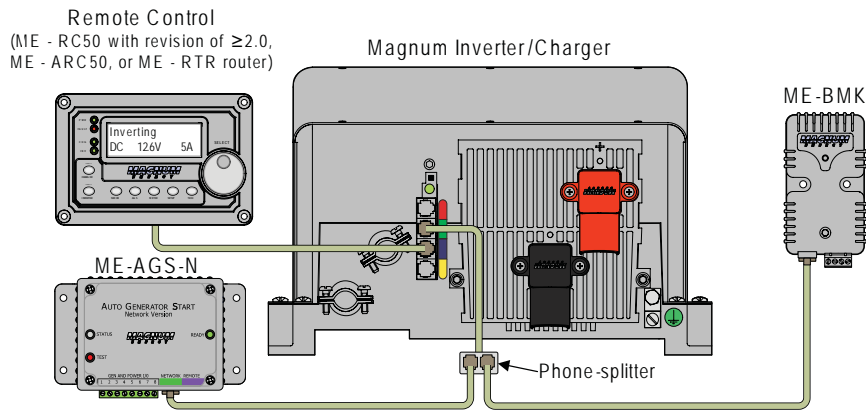

Figure 2-4, Multiple Network Devices - Star Configuration
- **Star Configuration** - In this arrangement, all the network devices connect to the inverter's Network port via a phone-splitter, using individual cable runs (see Figure 2-4). Since each device is independently connected to the inverter's Magnum Net or Network port, problems in a cable or a device can be easily isolated; and, if there is a cable failure to one device it does not bring down all the other devices.